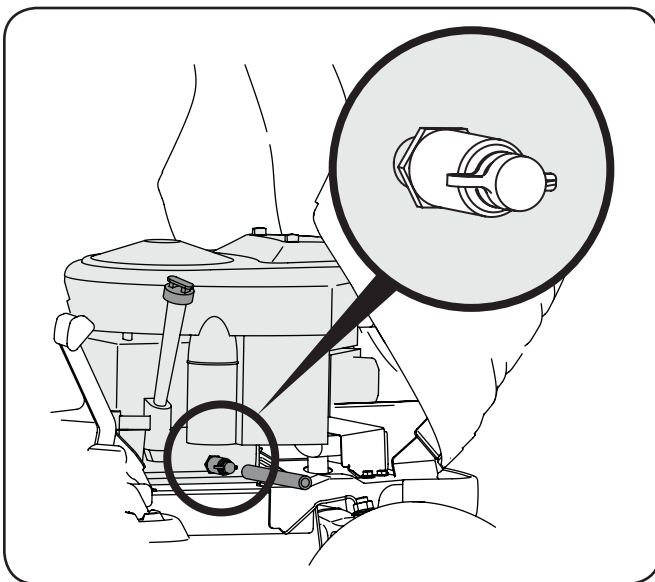

Figure 6-1
3. Pop open the protective cap on the end of the oil drain valve to expose the drain port. See Fig 6-1.
6. Pinch the tabs on the oil drain valve, then pull outward to begin draining oil. See Fig 6-1.